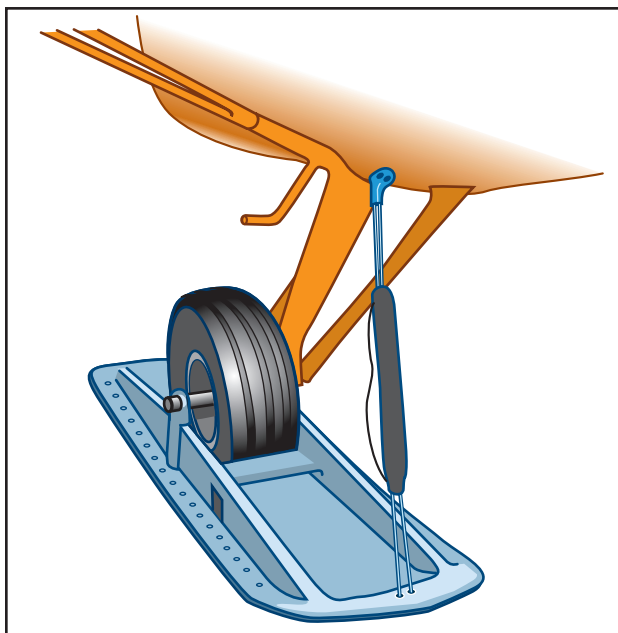

Figure 7-3. Penetration ski.
- **Penetration Ski**—The wheel extends down partially below the ski, allowing the skiplane to operate from both snow and non-snow surfaces. This type of ski gives poor ground clearance on non-snow surfaces and causes extra drag when on snow. [Figure 7-3]